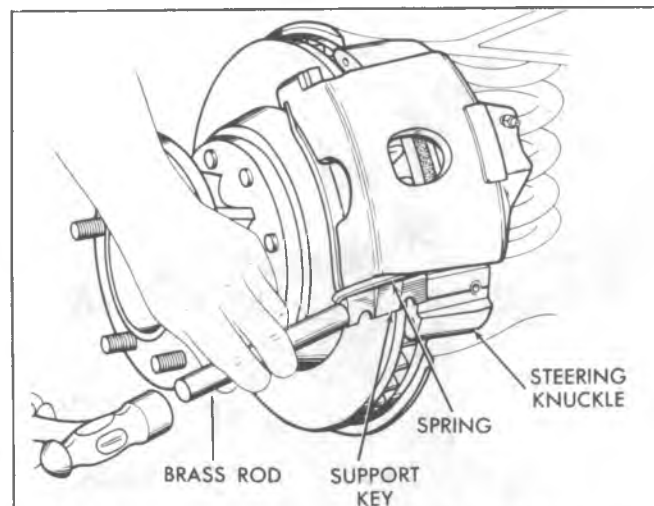

Fig. 5-36--Installing the Caliper Support Key
6. Place the spring over the caliper support key, install the assembly between the steering knuckle (or rear support) and lower caliper groove. Tap into place (until the key retaining screw can be installed) using a brass punch and a light hammer (fig. 5-36).